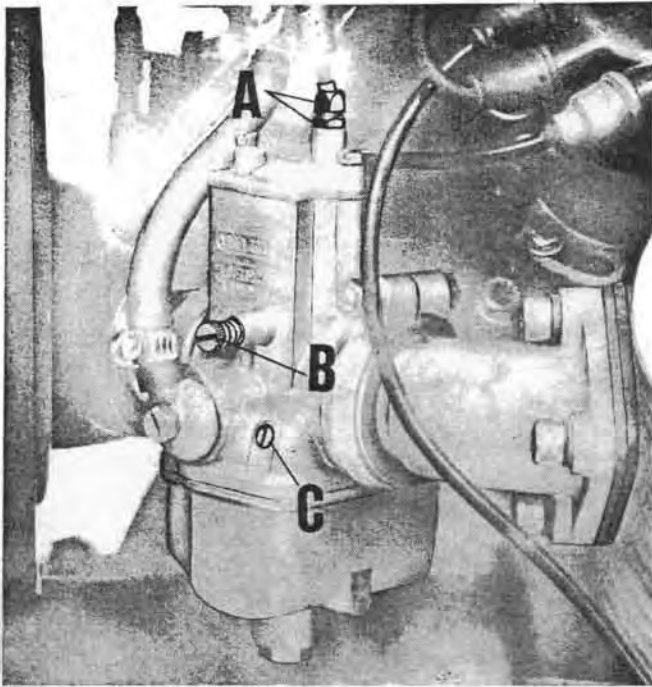

Fig. 71
STANDARD CARBURETOR SETTING (Fig. 71)
2. Check synchronization of both gas valves with the filter box and the inlet sleeve disconnected. Turn the throttle grip keeping at the same time your fingers on the carburetor slides to feel if both valves open by the same amount and simultaneously. Should one valve open before the other, this can be corrected by setting screw A Fig. 71 in the position where by turning the throttle both valves open simultaneously.
3. Adjust the idling speed by acting on screw C in Fig. 71. Screwing this in reduces the fuel flow and viceversa increases it. To adjust, tighten and then turn screw out 1 1/2 turns for the L/H carburetor and 1 3/4 to 2 turns for the R/H carburetor.
With the engine running at about 1000-1200 r.p.m., disconnect one of the plug leads and turn screw C (Fig. 71) of the opposite carburetor in or out to the position which will give the best idling speed i.e. when the revs are slightly increasing.
4. Disconnect the R/H cylinder plug lead and after starting the engine, ensure that the engine stops after firing 4 or 5 times. If it dies out sooner or later, it is necessary to adjust idling screw B Fig. 71 setting it at the point where the engine will stop after it has fired 4 or 5 times.
The same operation should be repeated on the right hand cylinder, with the left hand plug lead disconnected. If the R/H cylinder is normal, the engine should stop after firing 4-5 times. If not, screw B Fig. 71 should be adjusted to the position where it does so. Finally, the left cylinder plug lead should be re-connected.